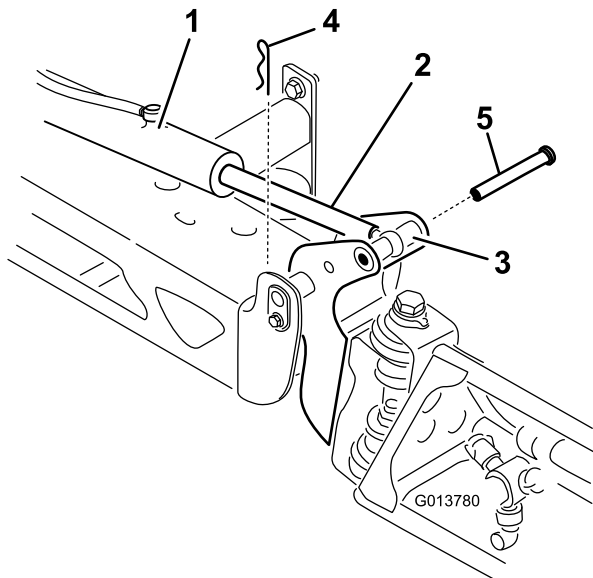

Figure 13
- Remove the cotter pin from the pivot pin (Figure 13).
- Lift up on the boom and remove the pin (Figure 13), and slowly lower the boom to the ground.
- Raise the boom to align the pivot with the actuator rod. While holding the boom, insert the pin through both boom pivot and actuator rod (Figure 13).